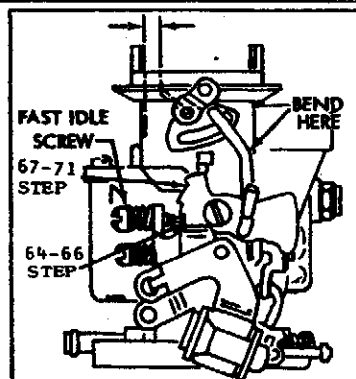

FIG. 3
c. (1964 See Figure 3.) Place fast idle screw on low step of fast idle cam and against second step. Hold choke valve toward closed position, and measure distance between upper edge of choke valve and air horn wall. To adjust bend fast idle rod. (See Data Table for measurement.) 1965-73 SECOND STEP NEXT TO HIGH STEP.
1964-67 (See Figure 3) set fast idle screw on low step of fast idle cam and adjust to proper R.P.M. (See Data Table for R.P.M.)